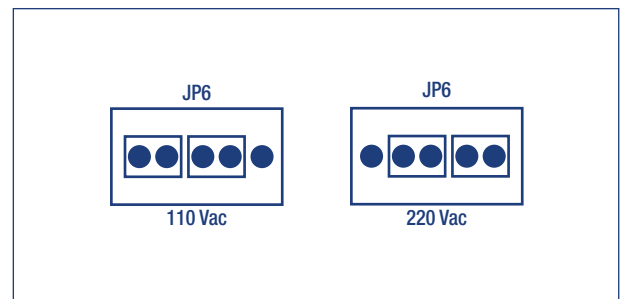

Figure 3 JP6 on Main Board
- 4 Set JP6 for the desired voltage. See Figure 3.
J1 1 2 3	Accepts Power from Either a 110 or 220 Vac Source. Jumper JP6 on the Main Board Must be Adjusted to Switch Between 110 and 220 Vac. See Figure 3. <ul style="list-style-type: none"><li>AC Line Connection (No Connection for DC Operation)</li><li>AC Neutral Connection (No Connection for DC Operation)</li><li>Earth Ground</li></ul>